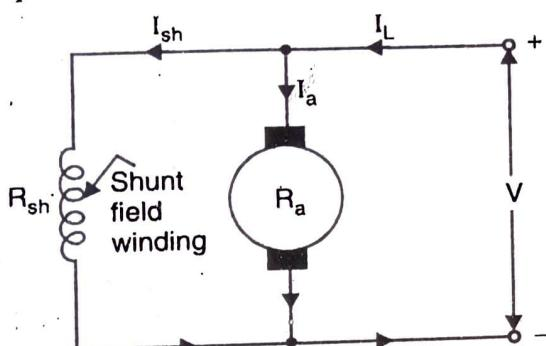

Fig. 5.4
- (i) **Shunt-wound motor** in which the field winding is connected in parallel with the armature [See Fig. 5.4]. The current through the shunt field winding is not the same as the armature current. Shunt field windings are designed to produce the necessary m.m.f. by means of a relatively large number of turns of wire having high resistance. Therefore, shunt field current is relatively small compared with the armature current.